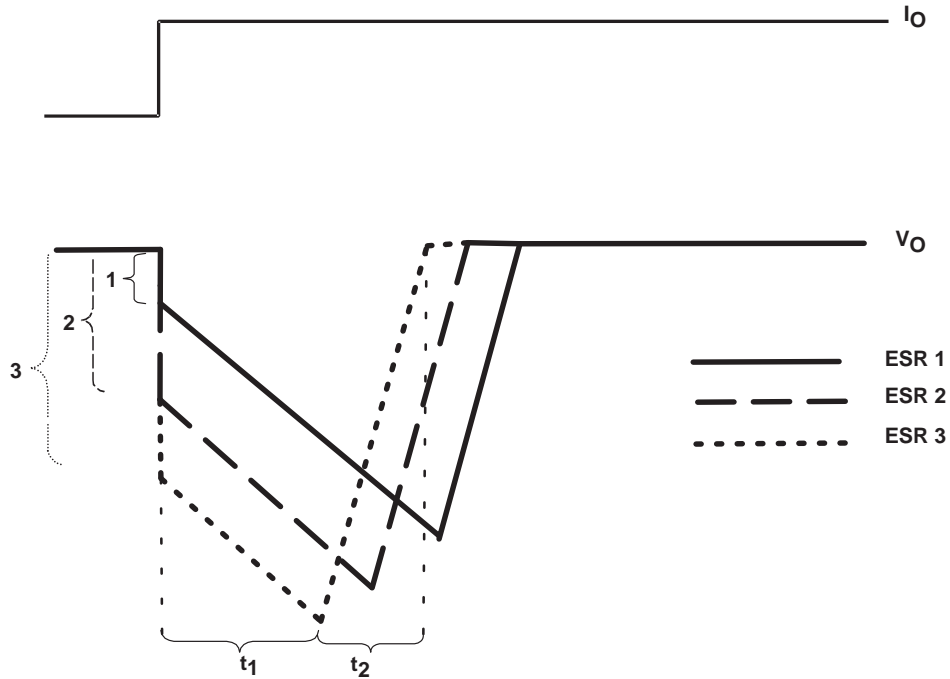

Figure 23. Correlation of Different ESRs and Their Influence to the Regulation of  $V_o$  at a Load Step From Low-to-High Output Current
- The LDO is not able to supply the sudden current need due to its response time ( $t_1$  in Figure 24). Therefore, capacitor  $C_O$  provides the current for the new load condition (dashed arrow).  $C_O$  now acts like a battery with an internal resistance, ESR. Depending on the current demand at the output, a voltage drop will occur at  $R_{ESR}$ . This voltage is shown as  $V_{ESR}$  in Figure 23.